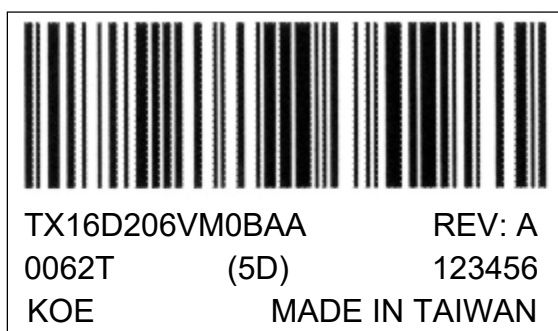

Fig 13.3
1) The lot mark is showing in Fig.13.3. First 4 digits are used to represent production lot, T represented made in Taiwan, and the last 6 digits are the serial number.
4) The location of the lot mark is on the back of the display shown in Fig. 13.3.